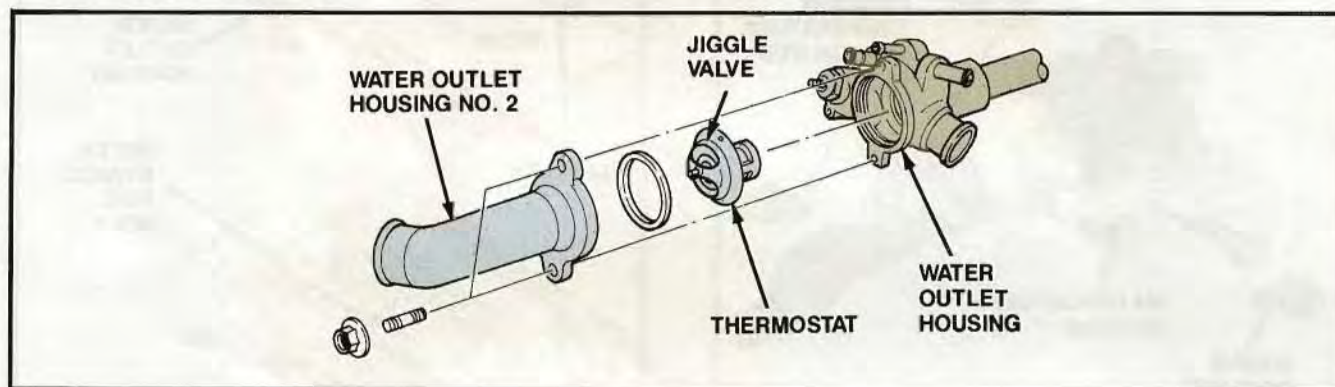

Figure 94. Thermostat Installation
1. Remove any dust and foreign materials from the outside of the water outlet housing flange (Fig. 94).